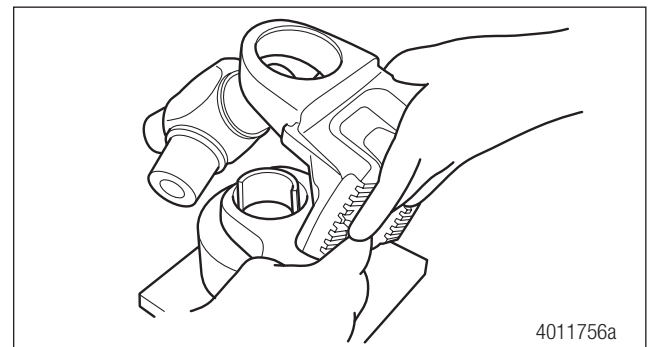

Figure 5.82
10. Remove the bushing/bearing assembly and the half-round sleeves. Remove the cross from the drive flange. Figure 5.82.